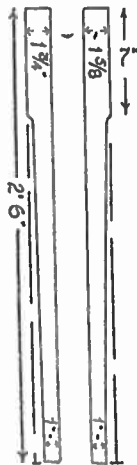

Fig. 4
The legs (Fig. 4) are each made up of two lengths of $\frac{1}{2}$ in. wood, of widths given, nailed and glued together to make L-shaped members, as at (E). At the distance down from the tops, given in the drawing, cut a $\frac{1}{2}$ in. deep notch, and from there reduce the width of each leg part to $\frac{1}{2}$ in. at the bottom. These sloped portions can well be chamfered off, to improve the appearances of the job. Now screw or nail the legs to each